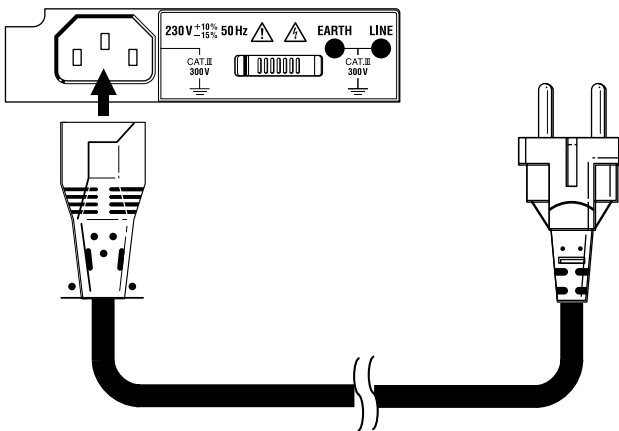
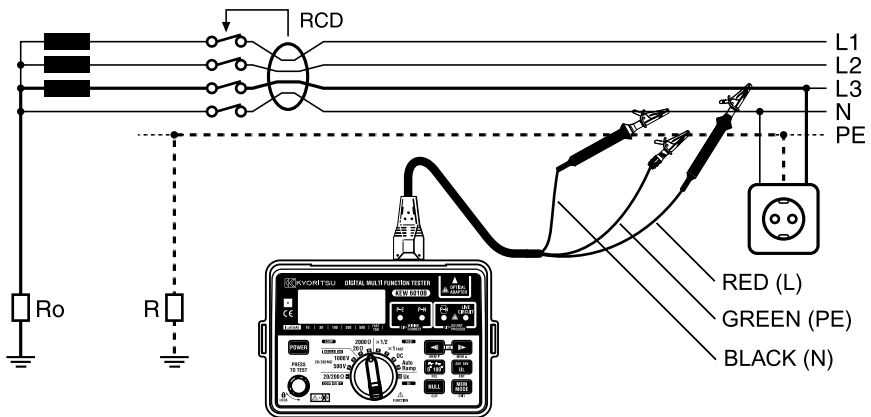

Fig 11
Fig 12
3. If testing sockets, connect the plug lead to the KEW 6010B and push the moulded plug into the socket to be tested (see Fig 11).
7. If testing lighting or other circuits, connect the three-wire lead Model 7133 (OMA DIEC :optional accessory) to KEW 6010B, connect the red (phase) lead to the phase connection of the circuit under test, connect the black (neutral) lead to the neutral connection of the circuit under test, and connect the earth lead to the earth associated with the circuit (see Fig 12).
4. Connect the instrument to the RCD to be tested either via a suitable socket outlet (see Fig 11) or using the Model 7133 (OMA DIEC) test lead set (see Fig 12).
5. Connect the instrument to the RCD to be tested either via a suitable socket outlet (see Fig 11) or using the Model 7133 (OMA DIEC) test lead set (see Fig 12).